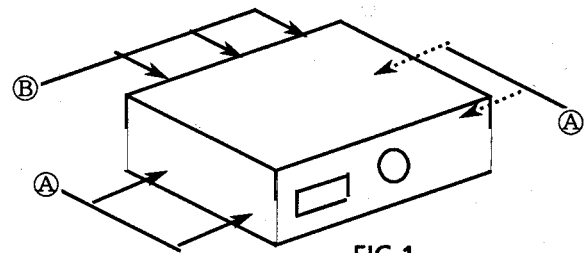

FIG.1
1. Remove 4 screws **A** on both sides of the top cover and 3 screws **B** on the rear side.(FIG.1)